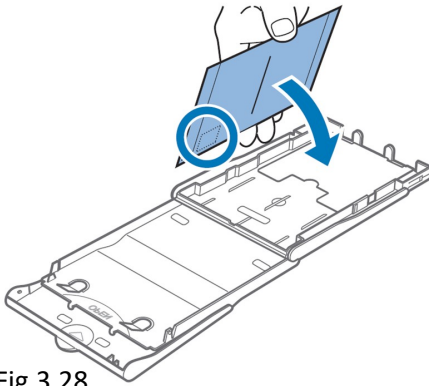

Fig.3.28.
- To remove the cartridge, press the release lever shown in Figure 3.28. to replace the cartridge. A new cartridge must be installed before the latch clicks. After the work is completed, return the robot's service compartment to its original position by sliding it into the robot. **Make sure the cover is securely fastened.**